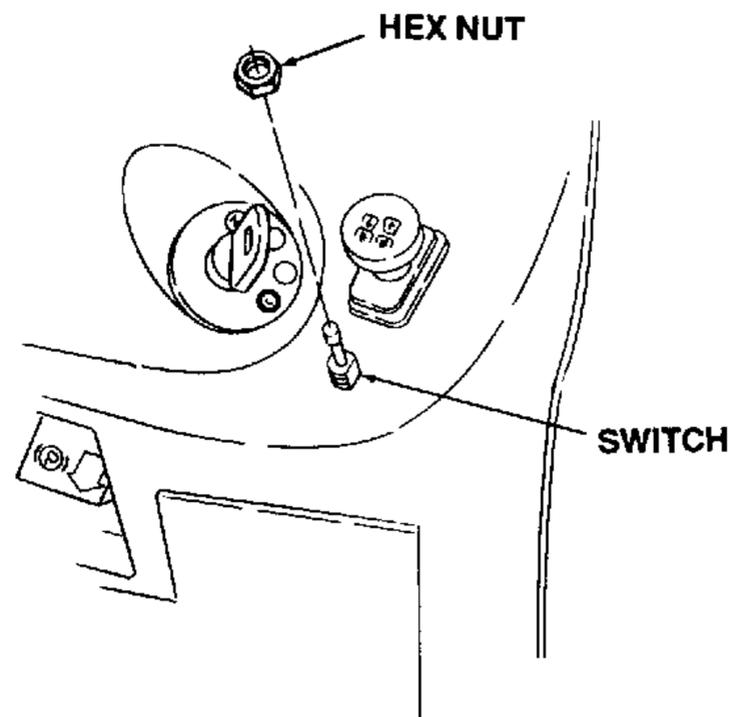

Figure 7-49. Installing Lift Switch.
- e. Position the switch so that the flat surface on the threads of the switch is toward the right side of the tractor as shown in Figure 7-49. Secure the switch to the dash panel with the hex nut.